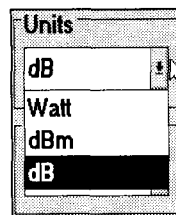

Figure 5-15. Selecting Channel Units
2. Choose the button to open the **Units** list box as shown in Figure 5-15.